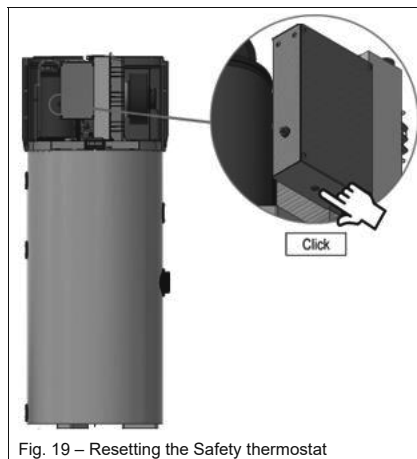

Fig. 19 – Resetting the Safety thermostat
- Manually reset the tripped safety thermostat from the top (Fig. 19). In the event of the tripping, the central pin of the thermostat sticks out by approximately 4 mm;